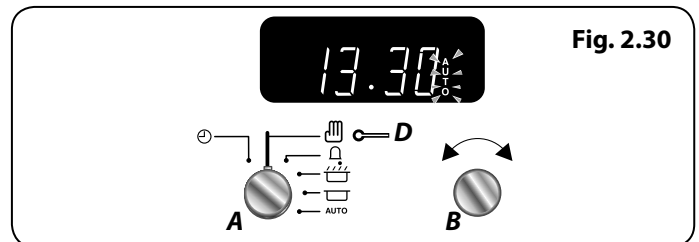

Fig. 2.30
5. Once the specified time has elapsed it will emit an alarm and the Multifunction Oven will stop working. The 'Cooking' symbol on the display will disappear and the word **'AUTO'** will flash (**Fig. 2.30**).
6. When you return, turn the **Timer (A)** knob to the **Manual (D)** setting to return to manual cooking and reset the Multifunction Oven modes once cooking is complete (**Fig. 2.30**).